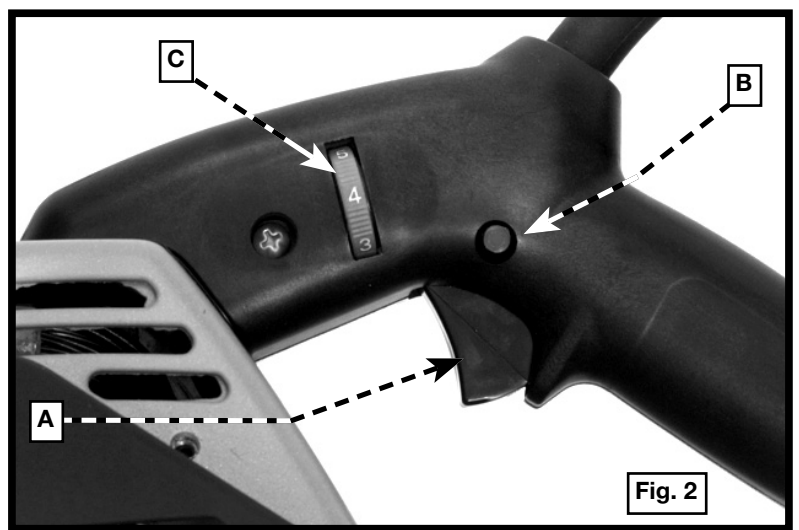

Fig. 2
2. Squeeze the trigger (A) Fig. 2 to start the motor. Release the trigger to stop the motor.
3. To allow the motor to run without constantly holding the trigger, press the trigger switch (A), push the lock button (B) Fig. 2, and release the trigger switch.
Adjust the speed by turning the thumbwheel (C) Fig. 2. Thumbwheel position #1 provides the slowest operating speed (1000 SFM) while position #6 provides the fastest operating speed (1500 SFM). The speed can be changed with the motor running or not running.